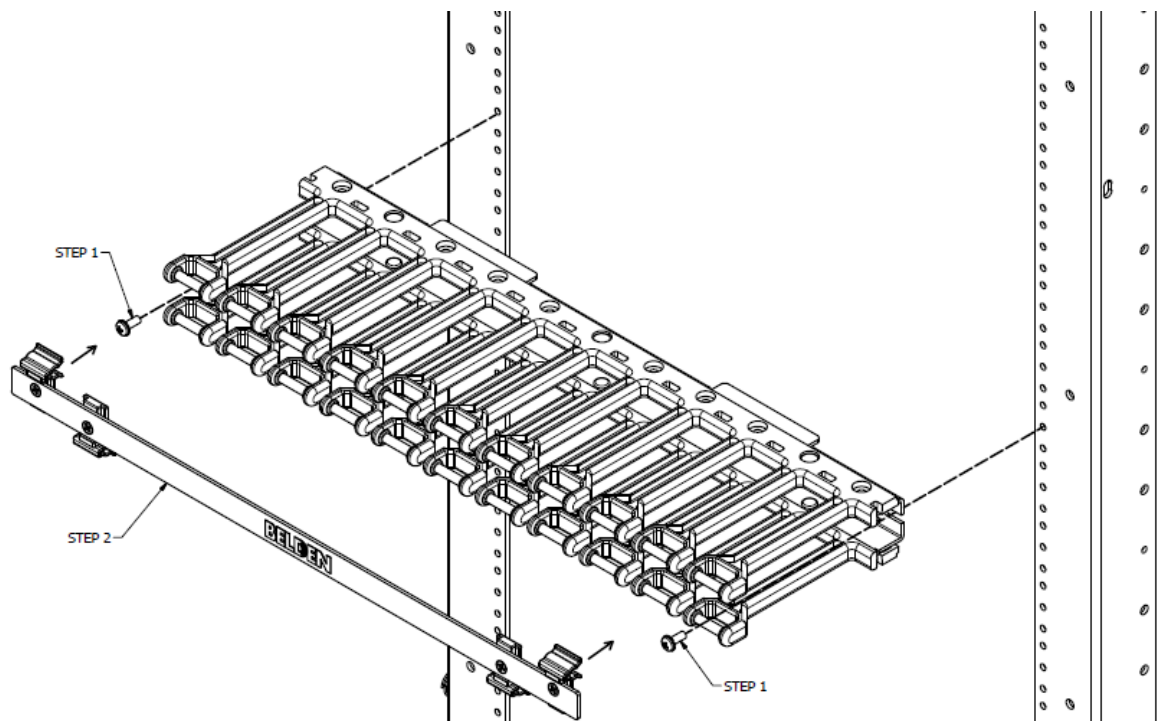

Figure 1
Step 1 - Select the RU location in which the manager is to be mounted and loosely attach one side of the rack using the correct hardware for the EIA rail mounting configurations. Loosely attach the second side of the rack to the opposing EIA rail making sure that hole selection is symmetric on both rails (see Figure 1). Tighten all previously installed hardware.
Step 2 – Once cable installation is complete, install Cable Manager Door (see Figure 1).